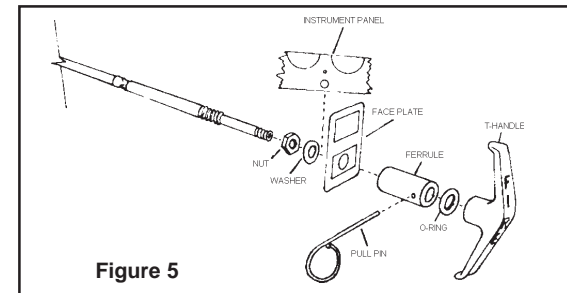

Figure 5
- The area selected must be structurally secure and provide at least twelve (12) inches (305mm) of clearance at the rear of the panel to facilitate cable hardware.
- The cumulative number of bends in the cable run must never exceed 360 degrees. This is equivalent to four (4) right (90 degree) angles. Use extreme care when bending cable to avoid kinking. Never form a bend with a radius of less than twelve (12) inches. Selection of the correct size Sea-Fire cable length will eliminate cable coil.
- Using the manual discharge face plate as a template (**Figure 5**) mark and drill a 13/32 inch (10.4mm) hole. Install the manual release cable adhering to the guideline in Step 1 above.
- Following the diagram in (**Figure 5**), install the nut and lock washer on the cable and insert the cable end through the panel and faceplate hole. Extend cable shaft out to its fullest and install ferrule by screwing onto the cable shaft end. Do not over tighten. Four or five turns are sufficient.
- Push the handle into the ferrule. This will seat the o-ring seal. Align the pull pin holes in the handle and ferrule and insert the pull pin (**Figure 5**).